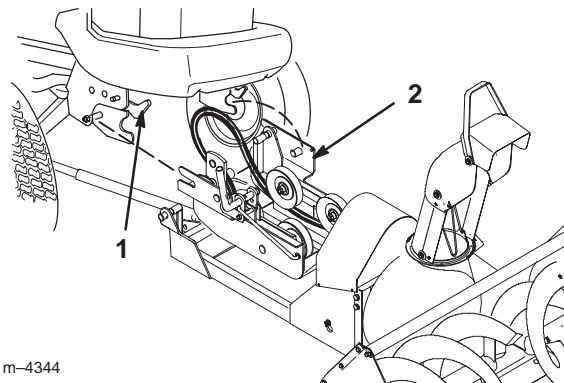

Figure 11
3. With the High-Low range selector in neutral “N,” pull the tractor forward toward the snowthrower until the end of the snowthrower frame is just underneath the tractor’s front Attach-A-Matic™ hitch (Fig. 11).
4. Ensure the latches on the tractor’s front Attach-A-Matic™ are open. Then slide the pulley box completely into the Attach-A-Matic™ hitch. Close the latches by rotating them down (Fig. 11).